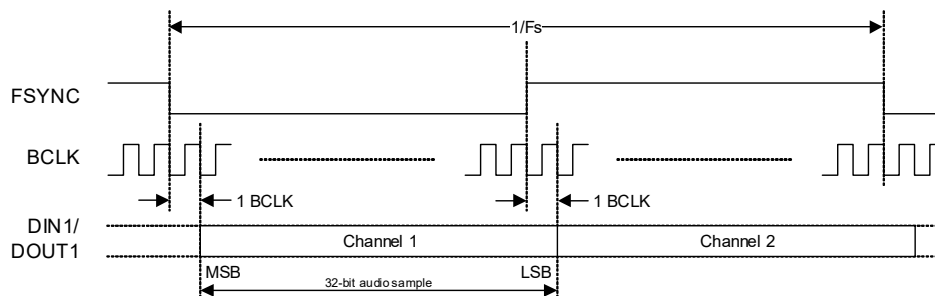
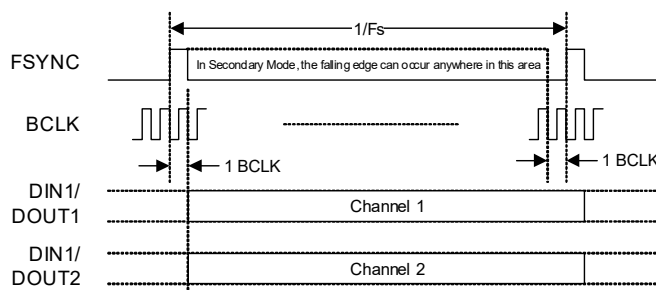

Figure 4-13. I²S Data Format
Figure 4-16. TDM Data Format—2 x DIN/DOUT
The ASP data format in I²S, Left-Justified, and TDM interface modes as illustrated in Fig. 4-13 through Fig. 4-16. Refer to Table 4-13 for the applicable definition.
- If I²S data format is selected, the ASP supports audio channels 1–2 as shown in Fig. 4-13. The minimum BCLK rate is 64 fs (where fs is the sample rate). A higher BCLK frequency can be used, resulting in unused BCLK cycles between the LSB of one sample and the MSB of the next.
The 1-slot TDM format is shown in Fig. 4-16.